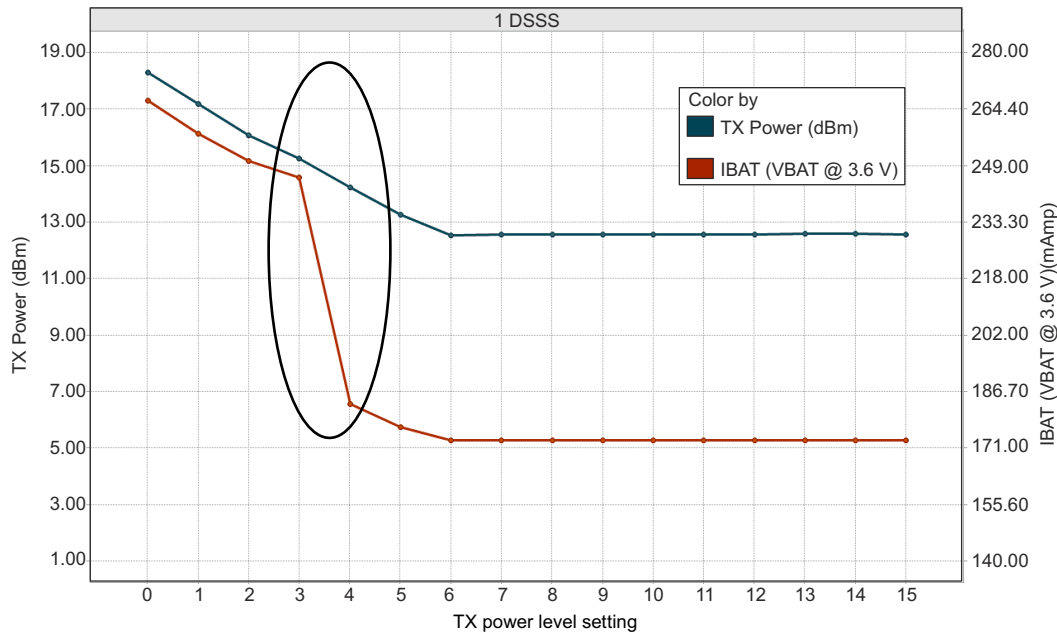
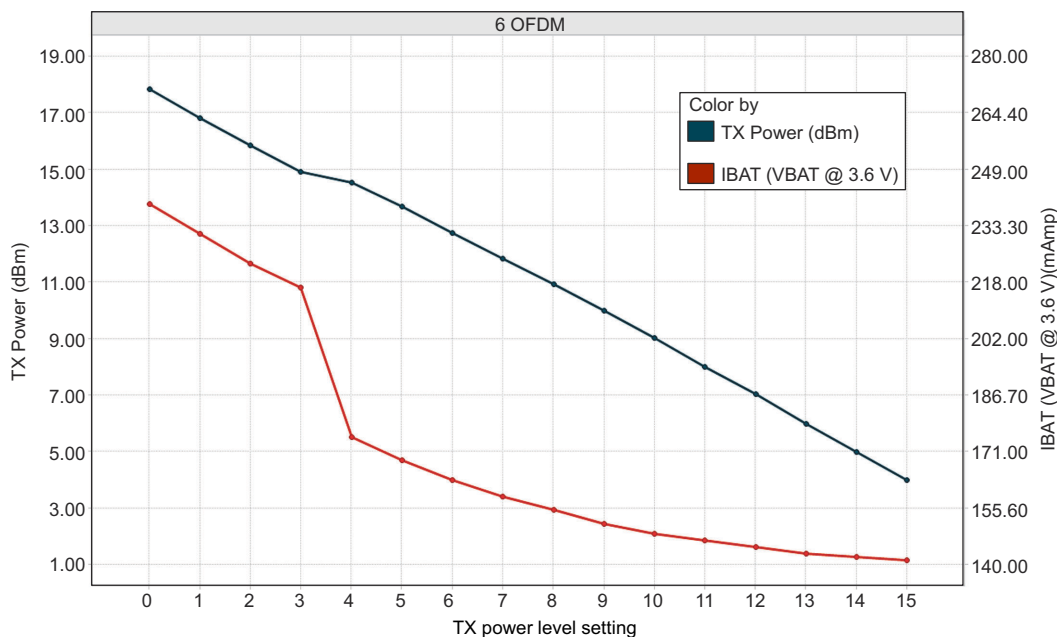
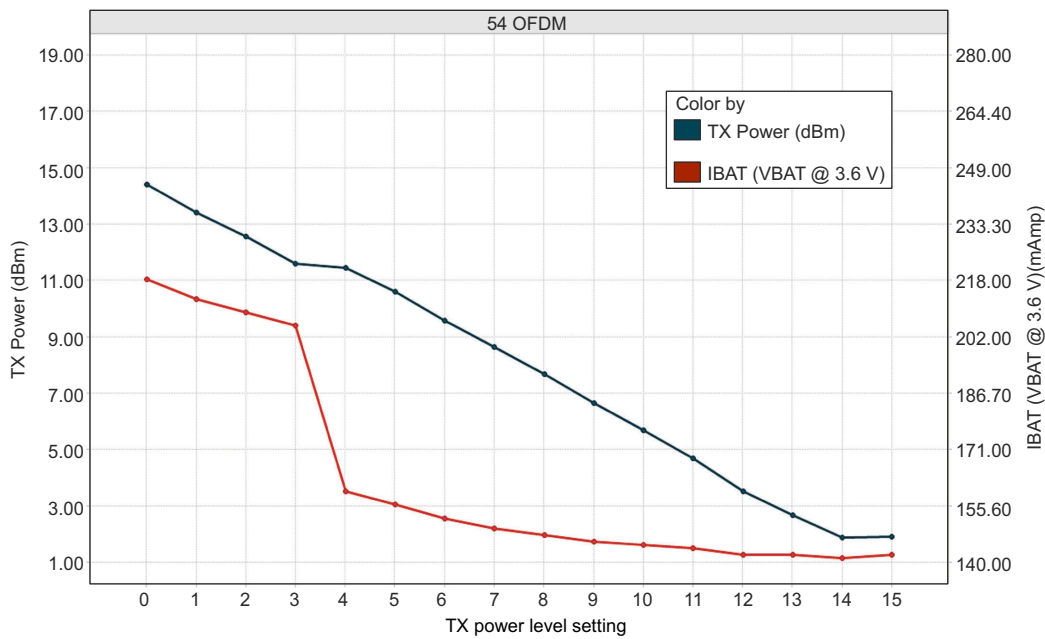

图 8-1. TX Power and IBAT vs TX Power Level Settings (1 DSSS)
图 8-2. TX Power and IBAT vs TX Power Level Settings (6 OFDM)
图 8-3. TX Power and IBAT vs TX Power Level Settings (54 OFDM)
- (1) TX power level = 0 implies maximum power (see 图 8-1, 图 8-2, and 图 8-3). TX power level = 4 implies output power backed off approximately 4 dB.
- (2) CC3220MODx and CC3220MODAx are constant, power-source systems. The active current numbers scale based on the V_{BAT} voltage supplied.
- (3) DTIM = 1
- (4) The LPDS number of reported is with retention of 256KB of MCU SRAM. The CC3220MODx and CC3220MODAx modules can be configured to retain 0KB, 64KB, 128KB, 192KB, or 256KB of SRAM in LPDS. Each 64-KB block of MCU retained SRAM increases LPDS current by 4 μA.
- (5) The complete calibration can take up to 17 mJ of energy from the battery over a time of 24 ms. In default mode, calibration is performed sparingly, and typically occurs when re-enabling the NWP and when the temperature has changed by more than 20°C. There are two additional calibration modes that may be used to reduced or completely eliminate the calibration event. For further details, see CC3x20 SimpleLink™ Wi-Fi® and Internet of Things Network Processor Programmer's Guide.
- (6) The RX current is measured with a 1-Mbps throughput rate.
- (3) The RX current is measured with a 1-Mbps throughput rate.
- (4) DTIM = 1
- (5) The LPDS number of reported is with retention of 256KB of MCU SRAM. The CC3220MODx and CC3220MODAx modules can be configured to retain 0KB, 64KB, 128KB, 192KB, or 256KB of SRAM in LPDS. Each 64-KB block of MCU retained SRAM increases LPDS current by 4 μA.
图 8-1, 图 8-2, and 图 8-3 show TX Power and IBAT versus TX power level settings for the CC3220MODS module at modulations of 1 DSSS, 6 OFDM, and 54 OFDM, respectively. For the CC3220MODSF module, the IBAT current has an increase of approximately 10 mA to 15 mA depending on the transmitted rate. The TX power level will remain the same.
In 图 8-1, the area enclosed in the circle represents a significant reduction in current during transition from TX power level 3 to level 4. In the case of lower range requirements (14-dBm output power), TI recommends using TX power level 4 to reduce the current.